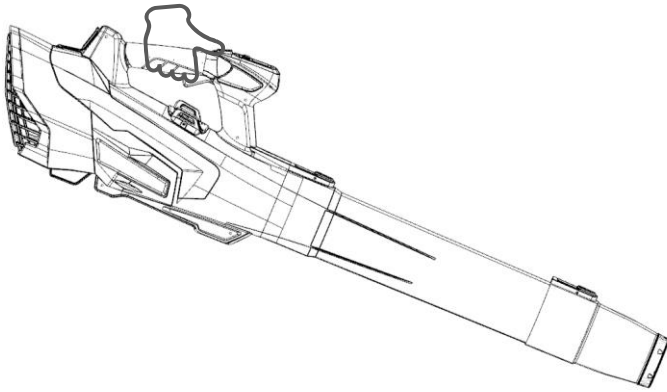

Fig 8
► Hold and control the blower with one hand on the carry handle - wrap your thumb around the handle (Fig 8).